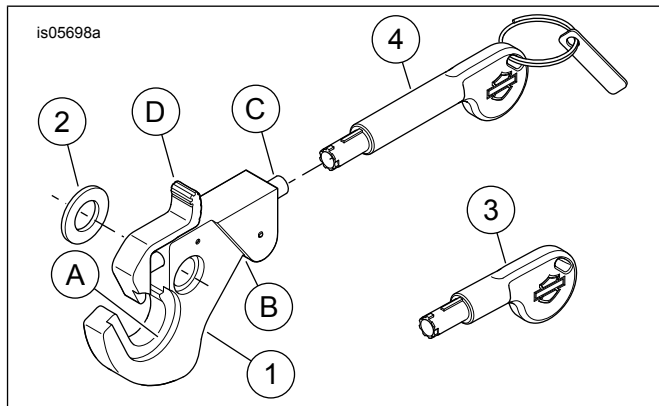

Figure 9. Service Parts: Detachables Lock Kits
See Figure 9. Depending on the installed detachable, the position of the relief (A) and undercuts (B) are used as spacers or docking point mounts. Verify that the locking latch is positioned so there is key access for unlocking the latch.
1. **Locking the Latch:** See Figure 9. When the detachable is installed, push the spring-operated lock (C).